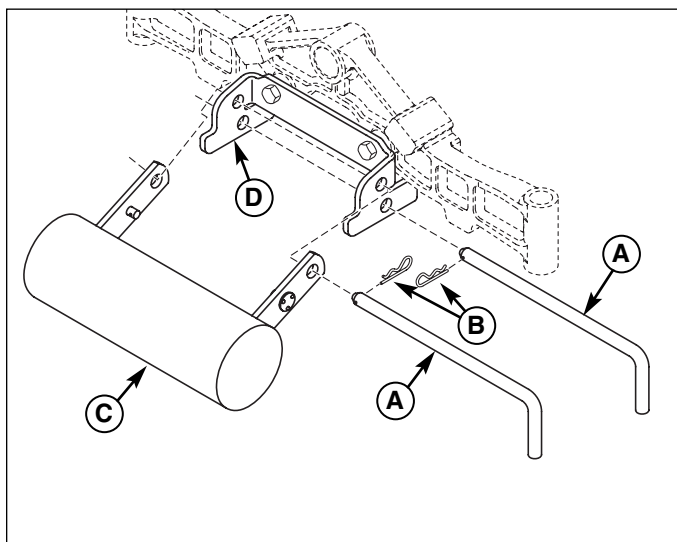

Figure 5. Rods and Weight
1. Use one of the rods (A, Figure 5) in the lower hole of bracket (D) to Install Mower Deck. See Operator's Manual MOWER DECK REMOVAL & INSTALLATION. Secure rod (A) with clip (B).
2. Insert one of the rods (A) through the hitch (D) and weight (C). Secure rod (A) with clip (B).